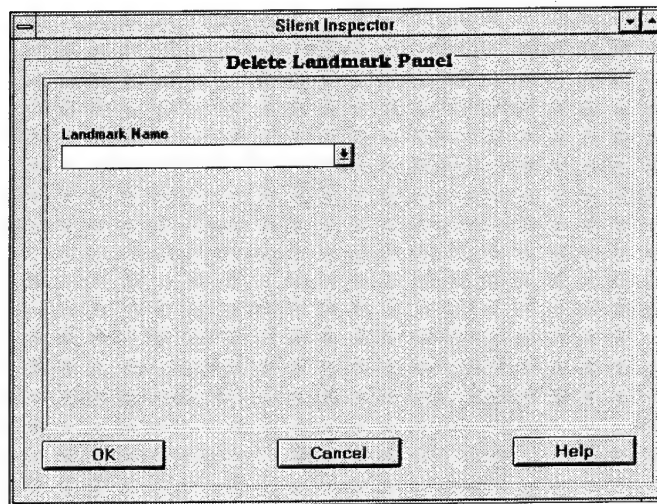

Figure 34. **Delete Landmark Panel** screen
- Click on **Delete** under the **Landmarks** menu, and the **Delete Landmark Panel** screen (Figure 34) will appear.